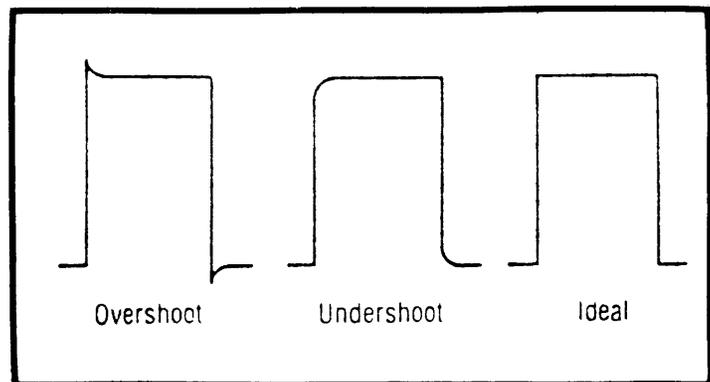

Fig. 20. Adjusting 1 kHz Square Wave Characteristic.
- Adjust the external trimmer for the ideal square wave characteristic per Fig. 20. This is the reference square wave. The external trimmer should not be readjusted after this step.
2. Observe square wave characteristics for reference. See Fig. 20 for desired waveshape.